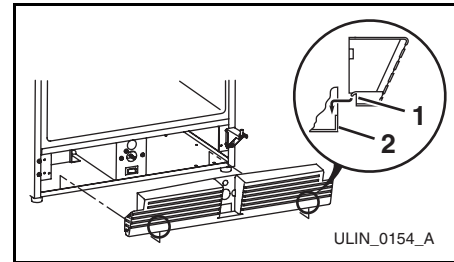

Figure 7
6. Place the two hook-hinges (Figure 7, 1) located on the rear bottom side of the grille onto the front lip of the unit base. Swing the grille up into position, and align the screw hole on the grille to the grille screw hole on the cabinet.